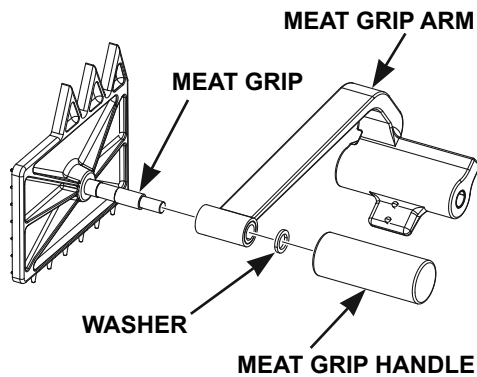

Fig. 24
- Assemble the Meat Grip Assembly (Fig. 24) by placing the Washer, Meat Grip Arm, and Meat Grip Handle on the shaft of the Meat Grip.